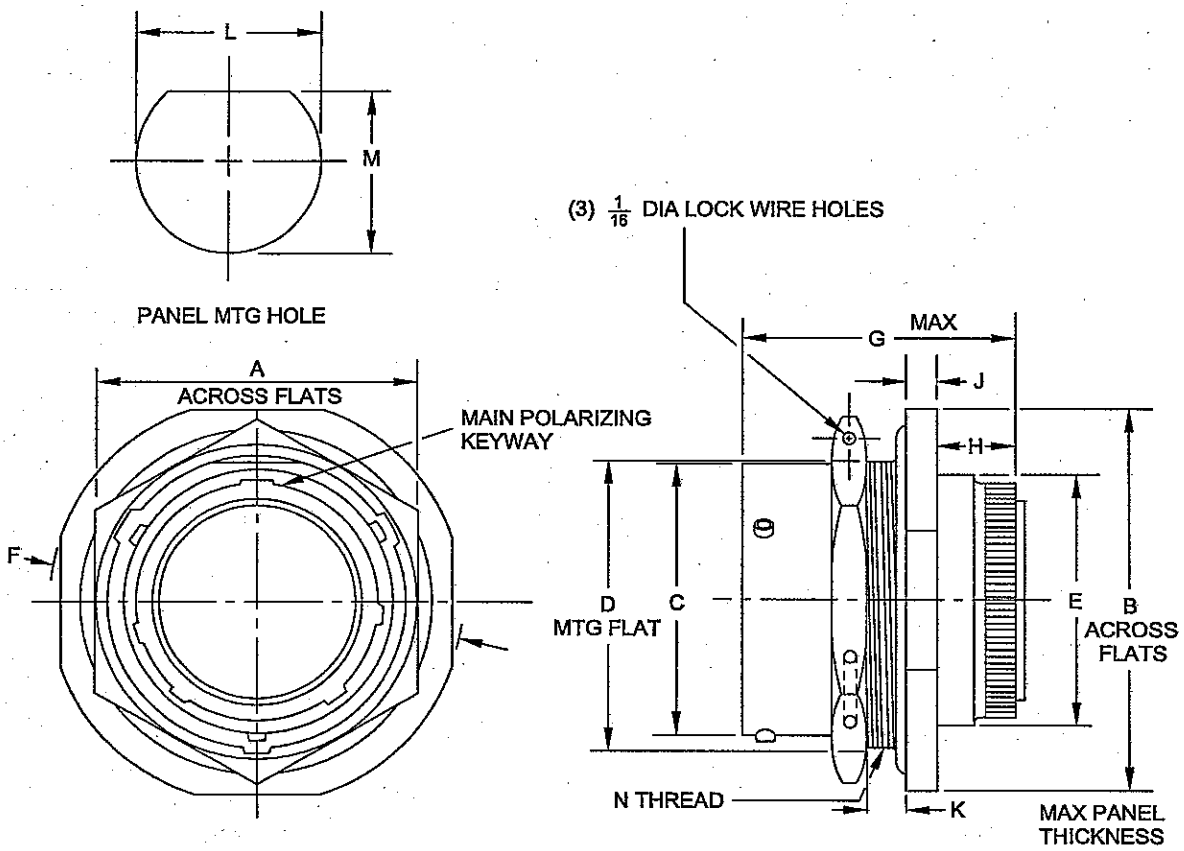

Fig 15 467 Jam nut receptacle, dimensions
12.2 Details of the 567 jam nut receptacle including panel mounting hole dimensions are given in Fig 15 and Table 9.